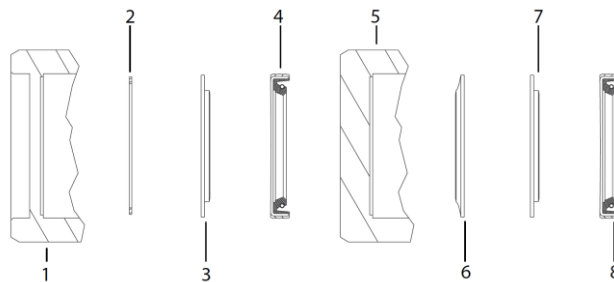

Figure 3 Seal elements without Seal Carrier
3. Place housing (18) in vise with the seven bolt assembly holes facing up.
- a) Place metal shim (5) or excluder seal (not shown) in the smallest diameter recess in the housing (18). Install the backup seal (6) into the housing (18) with the flat side down and the seal lip facing up.
- b) Insert shaft seal (7) down into housing (18) making sure that lip on seal faces up (See Figure 3 for correct seal orientation).
- c) Install thrust washer (12) into housing and using an arbor press, seat the shaft seal (7) into housing (18), then place the thrust bearing (35) into housing.